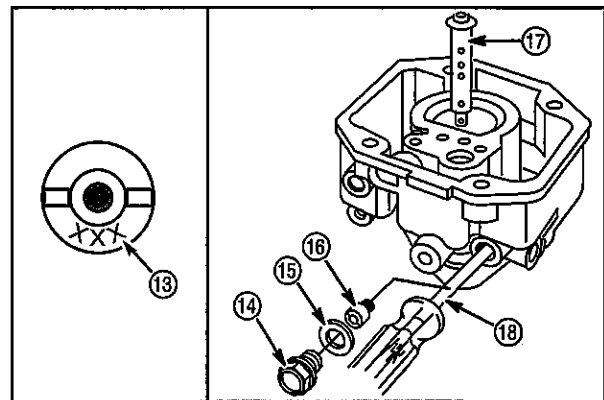

Fig. 109
13. Install fixed main jet (16) with Jet Screwdriver #19062 (18), **Fig. 109**.
14. Install washer (15) and plug (14).
15. Install emulsion tube (17).